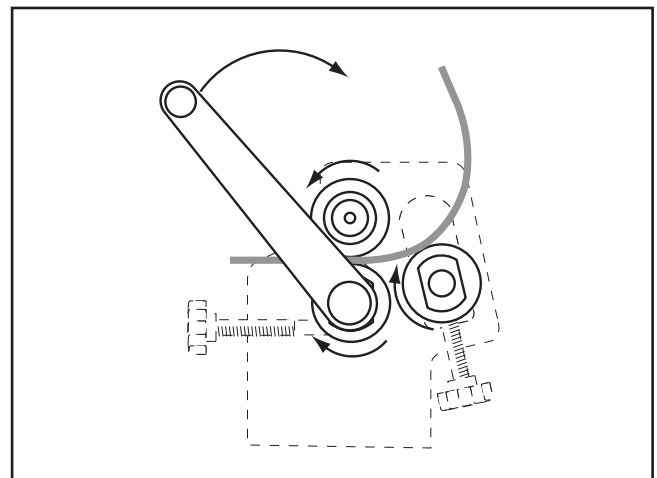

Figure 20. Processing the workpiece.
- Turn the crank to process the material through the slip roll. Continue turning until the workpiece is completely through the top and bottom rollers (**Figure 20**).